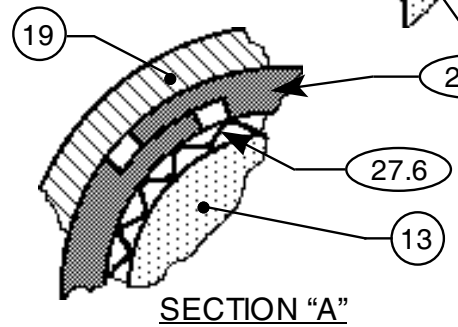
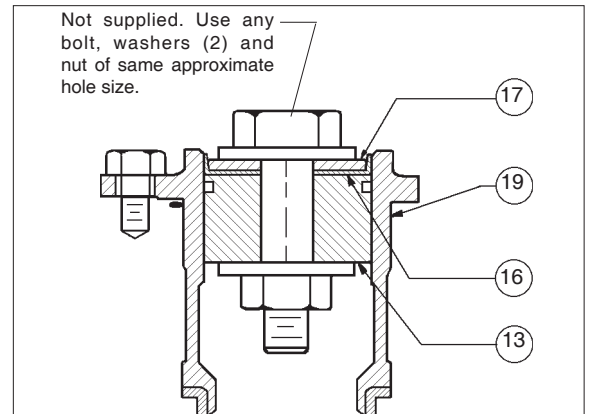

Figure 1: Dynamic Side Seals
Figure 4: Temporary Assembly Parts
A detailed view of the dynamic side seal parts is shown in Figure 1 on the next page.
1. When replacing the optional wiper seal (16), the replacement wiper seal (16) is “pre-formed”. It may, however, require reforming. Under normal circumstances, this step may not be required. If needed, reform the wiper seal (16) by pressing the temporary assembly parts into the cage (19) backwards as shown in Figure 4. The wiper seal (16) is best left in this position overnight (minimum of two (2) hours) prior to reassembly.
2. After forming the wiper seal, remove parts (13, 16, 17) from cage (19) and disassemble the temporary assembly of Step 1. above.
3. Installation of dynamic side seal (27) (See Figure 1):